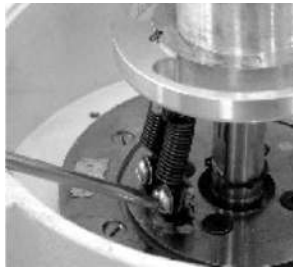

Fig. 8 (Spring Replacement)
**Spring Replacement Instructions:** For the long running life of the instrument 8 extra springs are provided. If a spring breaks follow the steps below: (Ref. Fig. 8).